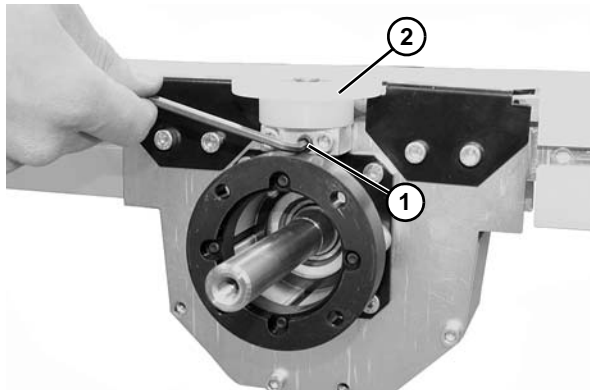

Figure 142
2. Loosen set screw (**Figure 142, item 1**) and remove belt hold down wheel (**Figure 142, item 2**).